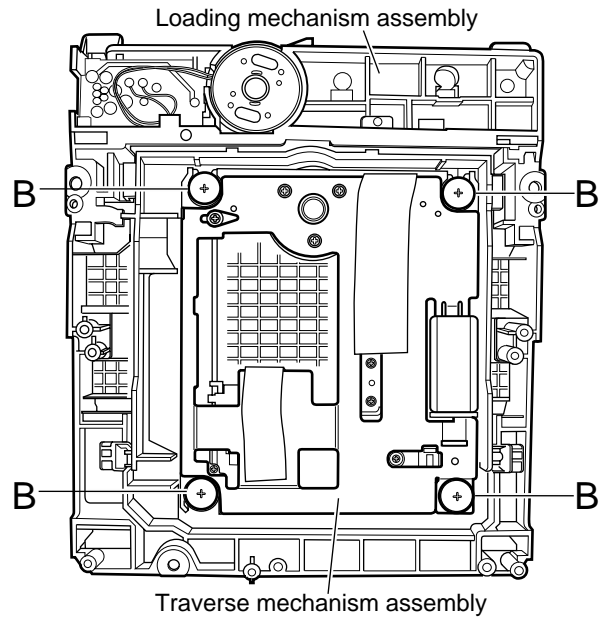

Fig.3-2g
3.2.2 Removing the traverse mechanism assembly (See Figure 3-2g)